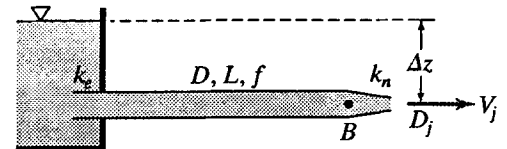

Figure X8.27.1
8.27.2 A 180-mm-diameter pipeline ($f = 0.032$) 150 m long discharges a 60-mm-diameter water jet into the atmosphere at a point which is 80 m below the water surface at intake (Fig. X8.27.1). The entrance to the pipe is reentrant with $k_e = 0.9$, and the nozzle loss coefficient is 0.055. Find the flow rate and the pressure head at the base of the nozzle.